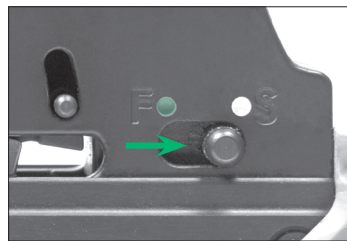

FIGURE 12
2. Slide the safety switch from the FIRE position to the ON SAFE position (Fig. 12).
4. Carefully inspect the safety switch to ensure that it is fully in the ON SAFE position (Fig. 12). If the safety switch has not moved all the way back to the WHITE dot, it has not been placed ON SAFE and is still in the FIRE position. Always visually inspect the safety switch to make certain that it is in the desired position.
⚠ WARNING: IF FOR ANY REASON THE SAFETY SWITCH DOES NOT FULLY MOVE TO THE ON SAFE POSITION (FIG. 12), SAFELY DE-COCK THE BOW THROUGH THE USE OF AN ARROW AS DESCRIBED IN SECTION 9.2. DO NOT USE THE CROSSBOW. CALL CUSTOMER SERVICE AT 715-718-3574 FOR AUTHORIZED REPAIR.